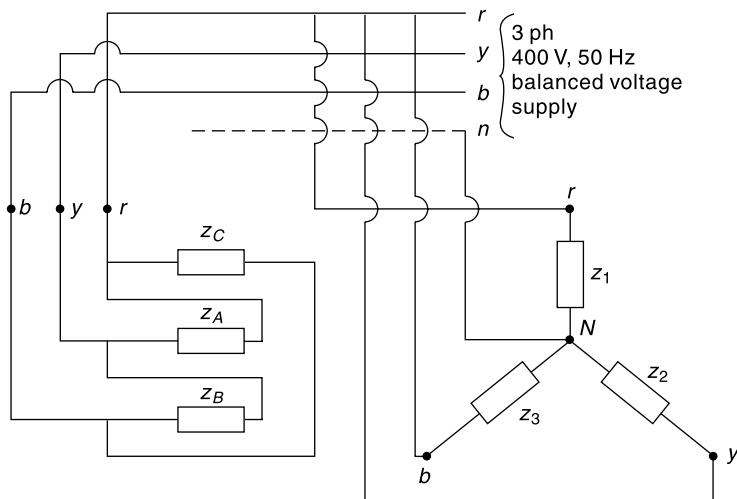

Fig. 7.32 Circuit of Ex. 7.52
Figure 7.31(a) represents the schematic diagram of the system after the capacitors are connected in Δ across the load in order to improve the p.f. from 0.7 to 0.85 (lag). Figure 7.32(b) represents the circuit diagram per phase basis while Fig. 7.31(c) represents the phasor diagram on per phase basis.
7.52 Two three-phase loads, one star and another in delta connection as shown in Fig. 7.32 are connected to a three-phase 400 V, 50 Hz balanced supply. Assuming $Z_1 = 2 \angle 20^\circ \Omega$; $Z_2 = 6 \angle 75^\circ \Omega$; $Z_3 = 30 \angle 50^\circ \Omega$ and $Z_A = 50 \angle 30^\circ \Omega$, $Z_B = 33.33 \angle -60^\circ \Omega$, $Z_C = 17.3 \angle 90^\circ \Omega$, find the current in y-phase. The phase sequence is (r - y - b) (anti-clockwise).